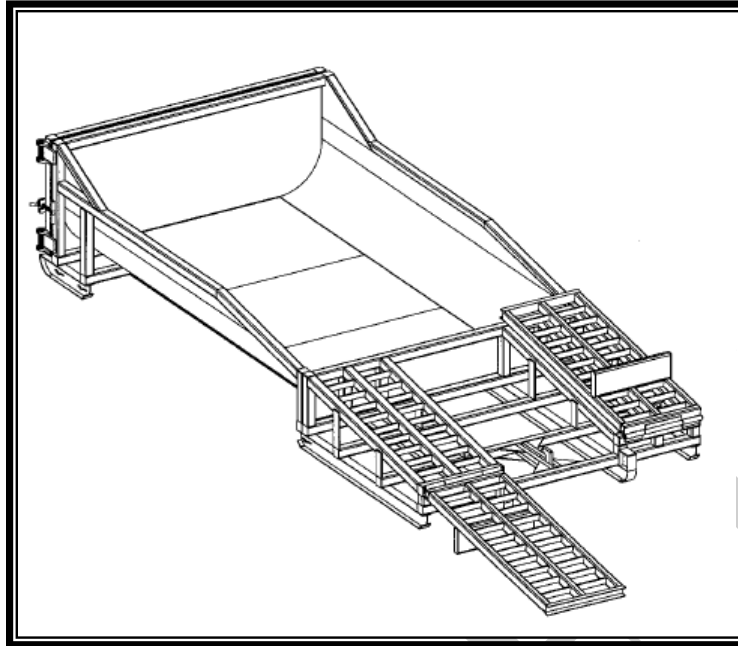

Figure 3.5. Prefabricated Concrete Washout Container with Ramp
- ~~Temporary concrete washout facilities shall be located a minimum of 50 feet from sensitive areas including storm drain inlets, open drainage facilities, and water courses. See Figure 3.5, as well as Attachments Section C, Details 23.0 and 23.1.~~
- Concrete washout areas should be constructed as shown in the figure 3.5